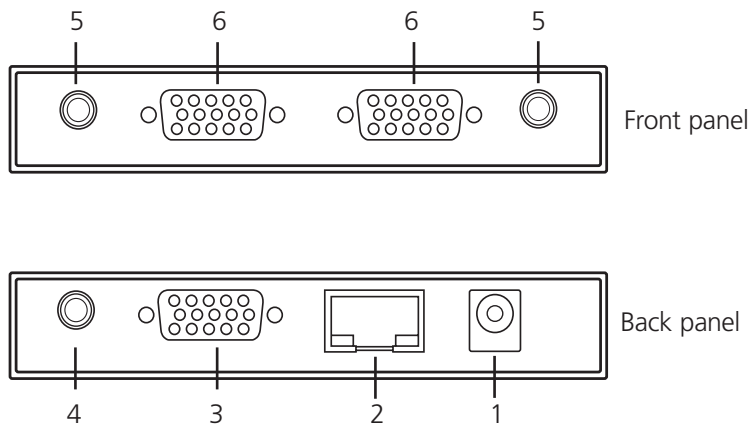
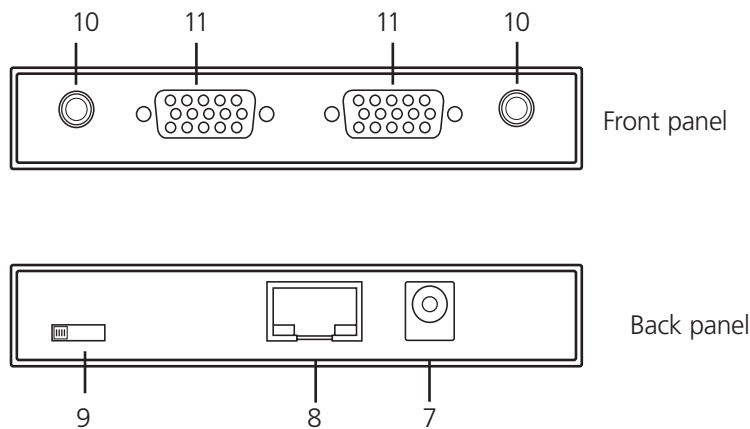

Figure 2-1. VGA Extender with Audio, local unit.
Figure 2-2. VGA Extender with Audio, remote unit.
The AC556A-R2 local and remote units are pictured in Figures 2-1 and 2-2. Tables 2-1 and 2-2 describe their components.
You'll need one local and one remote unit (AC555A-R2 includes both, or order AC555A-4-R2 and AC555A-REM-R2 separately), a VGA source such as a monitor (not included), Category 5, 5e, or 6 cable (not included), and power supplies (one for each unit, included). Follow the steps listed on the next page and refer to Figures 2-1, 2-2, and 3-1 as you install the extenders.
2. Using the included VGA cable, connect the local unit's HD15 input connector (labeled 3 in Figure 2-1) to the VGA source (for example, a PC).
3. Using the monitors' cables, connect two output monitors to the local unit's HD15 output connectors (labeled 6 in Figure 2-1).
4. Using audio cable, connect the local unit's audio input connector (labeled 4 in Figure 2-1) to the VGA source's audio connector. (This step does not apply to the AC555A-R2 and AC555A-4-R2; they do not support audio connections.)
5. Connect the local unit's two audio output connectors (labeled 5 in Figure 2-1) to two sets of speakers. (This step does not apply to the AC555A-R2 and AC555A-4-R2; they do not support audio connections.)
6. Using the monitors' cables, connect two output monitors to the remote unit's HD15 output connectors (labeled 11 in Figure 2-2).
7. Connect the remote unit's audio output connectors (labeled 10 in Figure 2-2) to the VGA source's audio connectors. (This step does not apply to the AC555A-R2 and AC555A-REM-R2; they do not support audio connections.)
8. Using Category 5, 5e, or 6 cable, connect the local unit's CAT5 output port (labeled 2 in Figure 2-1) to the remote unit's CAT5 input port (labeled 8 in Figure 2-2).
9. Connect each unit's power supply to its power supply connector (the local power connector is labeled 1 in Figure 2-1, and the remote power connector is labeled 7 in Figure 2-2).
Adjust the equalizer selector switch on the remote unit (labeled 9 in Figure 2-2) for optimum video signals for various cable lengths. Choose from the four lengths listed in Table 4-1.